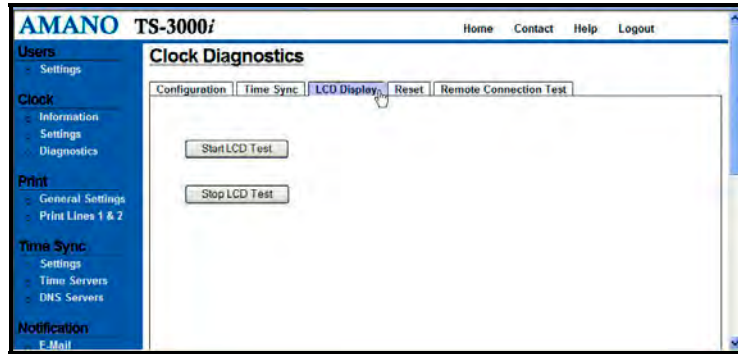

Figure 7-3. LCD Display Clock Diagnostics.
Step 1. Click on the **Diagnostics** link under **Clock**, and the **Clock Diagnostics** screen will appear. Then click on the **LCD Display** tab and the LCD Display screen will appear (see *Figure 7-3*).